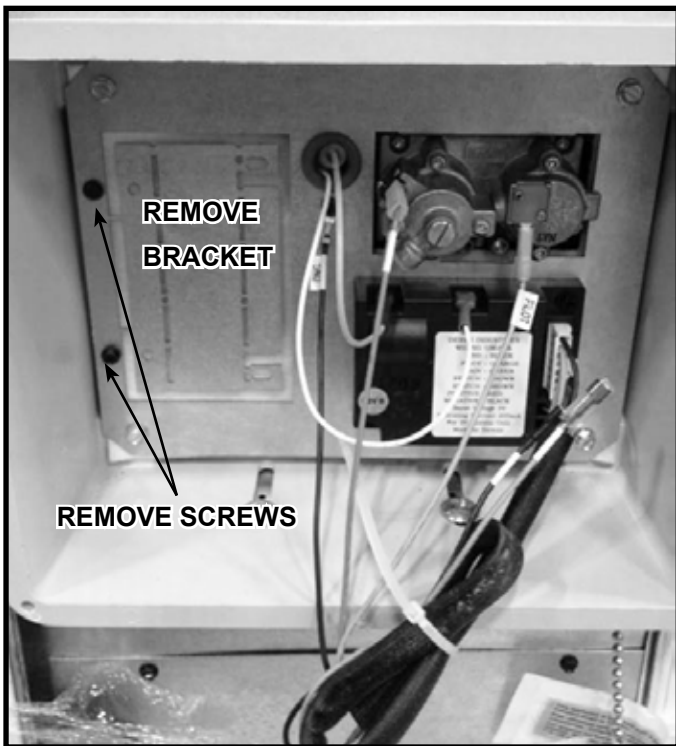
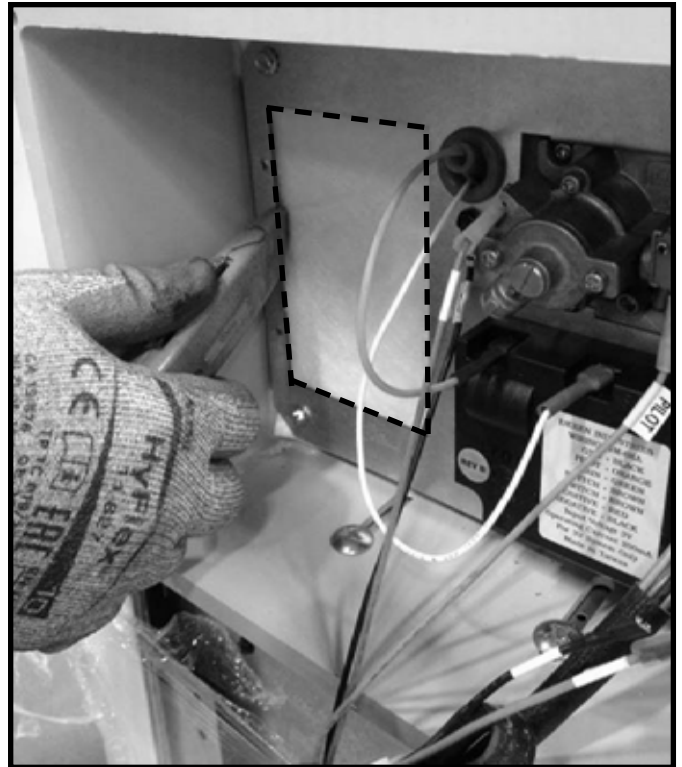

Figure 5.2 Remove Junction Box Bracket & Two Screws
Figure 5.3 Cut and Remove Insulation
- Remove the junction box bracket by prying loose with a screwdriver. Deburr bracket and valve bracket. Remove the two screws shown in Figure 5.2. Cut out and remove insulation from behind junction box bracket as shown in Figure 5.3.
- Place junction box into the control box, matching holes as shown, and fasten with the two screws removed in Figure 5.2.